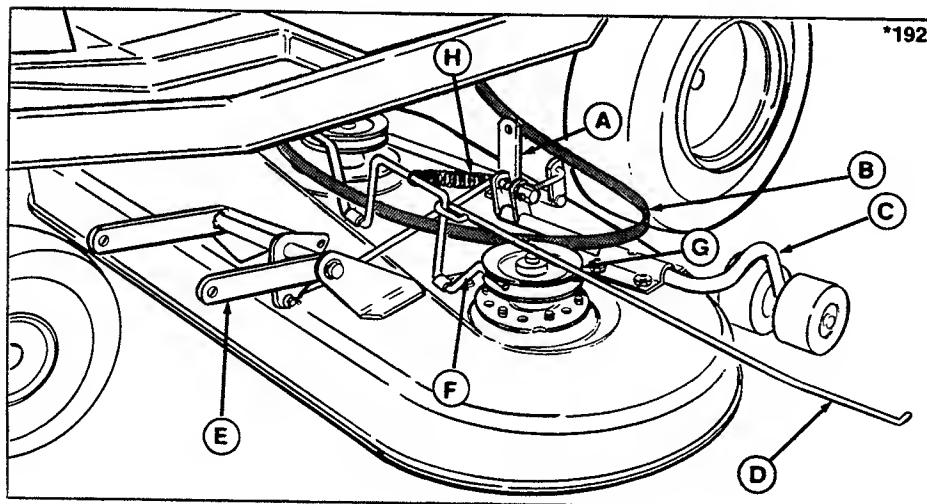
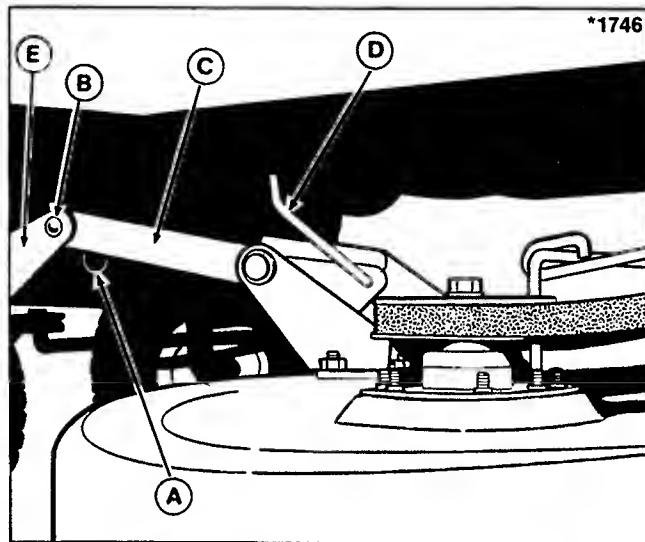
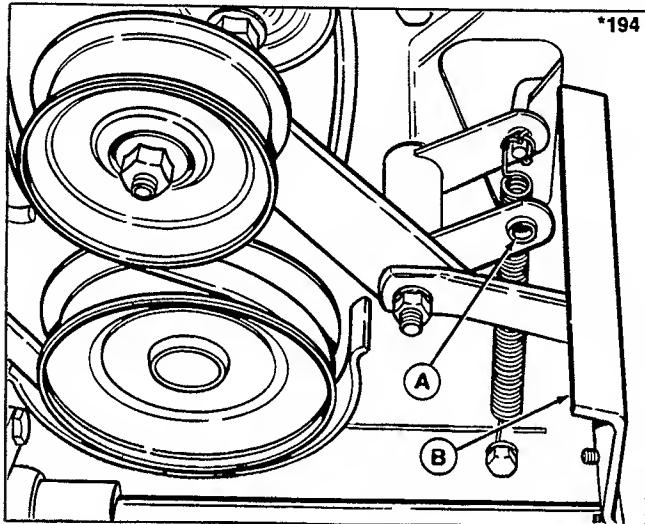
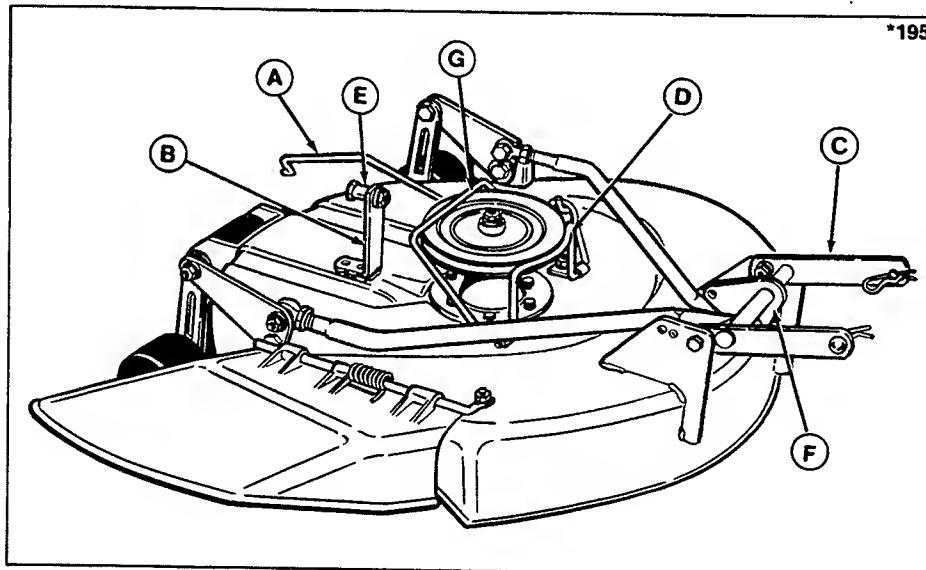

Figure 21. Installing 36" Mower
Figure 23. Mower Hitch
Figure 24. PTO Linkage
Figure 25. 26 " & 30" Mower
1. Place mower on left side of rider with mower brake rod (D, figure 21) pointing left. Slide mower partially under and place belt over mower bracket (A).
4. Before installing mower, remove one end of brake spring (H, figure 21) and route loose belt under spring and brake rod (D). Reinstall spring.
5. To align the mower hitch in rider hitch ears, push the hitch arms up and insert between ears (figure 23). (Pulling up on roller arm will help raise hitch.) Secure the mower hitch with pins and spring clips. Install pins from the outside. Be sure to install clip fully onto large ring.
7. Install the belt on the pulleys. Push the mower brake (F, figure 21) away from the pulleys to install belt. Loosen left arbor pulley belt stop if necessary. Make sure "V" side of belt rides in pulleys and there are no twists in belt.
8. Push the brake (F, figure 21) away from the pulleys so the brake rod (D) will clear the tire and left side plate. Insert the brake rod just inside the left side plate and insert the end of rod into PTO linkage shown in figure 24. (Engage the PTO lever to change position of the linkage.) Secure the brake rod with a spring clip (insert spring clip from rear).
9. Put height control lever in lowest position. To slip the lift rod (D, figure 23) into the hitch flange, the front of the mower must be raised a little. One method is to insert a wooden handle under the front of the mower deck and lift slightly (in a lever action). Insert end of lift rod into the hitch flange. Secure the rod with a washer and cotter pin.
1. Remove the spring clip from the brake rod and remove end of rod from the PTO linkage (figure 24). Push brake rod forward to clear left side plate and tire and swing rod out toward left side.
Loosen the hardware which secures the pulley belt guard (G, figure 25). The guard must be loose to install the belt.
5. Go around to the right side of the rider. Push the mower forward so rear roller will clear the tire then push mower under rider. Slip the belt over the mower bracket (B, figure 23).
6. Position the mower under the rider so that the mower bracket (B) is behind the rider upstop bracket.
7. Push the brake (D, figure 25) away from the pulley and slip the belt into the pulley. Be sure there are no twists in the belt. Tighten the belt guard (G, figure 25) hardware securely.
8. Lift up the front of the mower to align the hitch arms between the rider hitch ears (figure 23). Insert the two pins while holding mower up. Install the two spring clips in the pins.
9. Lift up the front of the mower and insert the lift rod (D, figure 23) into the hitch flange. One method to lift mower is to insert a wooden handle under the front edge of the mower deck and lift slightly (in a lever action). Place washer on lift rod then install spring clip.
10. Apply a little grease to the inside of the spacer (E, figure 25) and place the spacer on the bolt. Install the bolt thru the upstop bracket and mower bracket from the front. Be sure spacer is inside the upstop bracket. Install the locknut on the bolt. Tighten securely.
11. Push the brake (D, figure 25) away from the pulley to insert the brake rod (A) just inside the left side plate. Insert the rod into the PTO linkage shown in figure 24.
5. Loosen the hardware that secures the mower pulley belt guide (G, figure 25). Push the brake (D) away from the pulley and slip the belt out. Push the mower to one side and slip belt between mower bracket (B) and upstop bracket.
6. Remove the spring clip from the rear of the brake rod (A) and pull rod out of the linkage.
7. Remove the spring clip from the lift rod (D, figure 23). Remove the washer.
8. The mower must be lifted slightly to remove the lift rod from the mower flange (F, figure 25). One way is to insert a wood handle under edge of mower and lift up in a lever action. Pull lift rod out of the hole.
4. Loosen the idler pulley (K) mounting hardware. If pulley is removed, remember the position of the washers and belt stop (M).
5. On the 36 inch mower, loosen the left arbor pulley belt stop. On 26 inch or 30 inch mower, loosen the belt guide (G, figure 25).